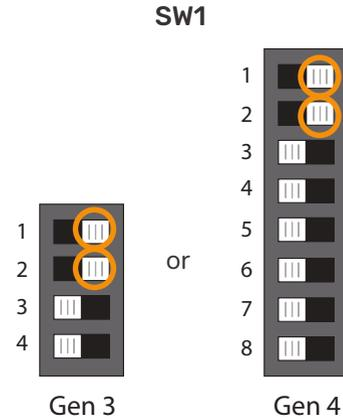
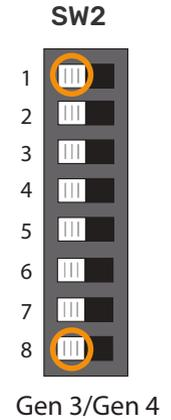

figure 21
figure 22
1. In the outdoor heat pump unit, locate the two DIP switches labelled SW1 (figure 21) and SW2 (figure 22). Switches for circuit board Generations 3 and 4 are shown opposite.
2. A. On SW1, ensure that switches 1 and 2 are ON by moving to the right as shown opposite (figure 21).
B. On SW2, ensure that switches 1 and 8 are OFF by moving to the left as shown opposite (figure 22).